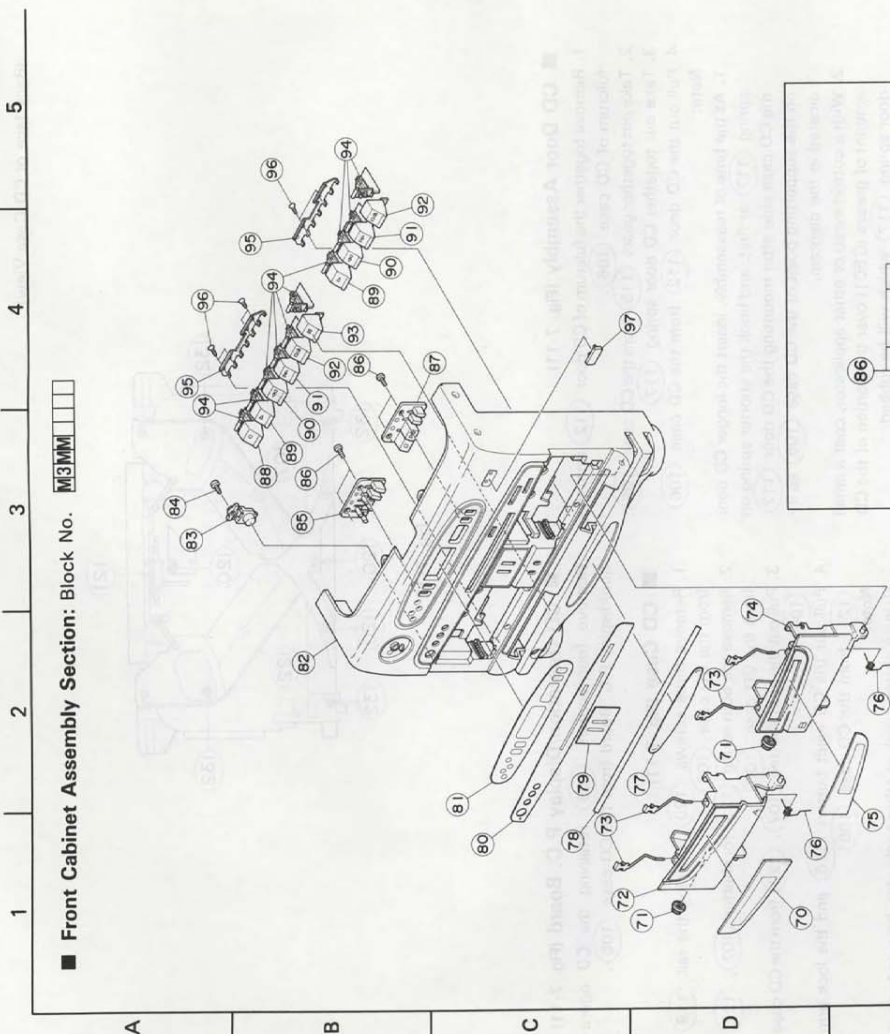

Fig. 7-9
■ **Operation button (Fig. 7-9, 7-10)**
1. Remove seven screws (96) retaining the both side button bracket (95) from the front cabinet (82).
2. Remove four screws (86) retaining the CD button (A) and (B) from the front cabinet (82).
3. Remove the screw (84) retaining the power button (83) from the front cabinet (82).